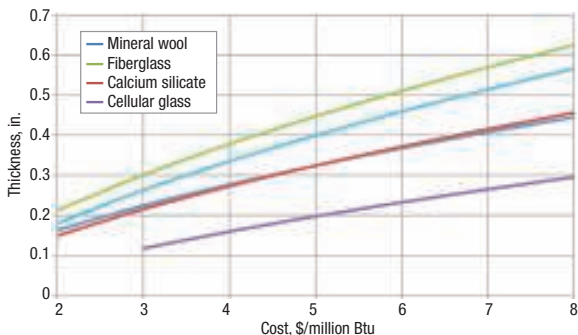

FIGURE 3. The optimal thickness for various insulation materials depends on the energy cost when compared to the base case
As a starting point, we choose a base case to generalize many instances graphically. We select 200°F as the temperature at radius r_1 , a 1-in. pipe and an ambient temperature of 77°F. The graphs in Figure 3 show the behavior of the optimal thickness of insulation for a pipeline versus energy costs for the five different insulation materials for this base case.
Step 1. Obtain the base case optimal thickness from Figure 3. For the x -axis value use the given cost of energy (\$2 /million Btu) and intersect it with the line that corresponds to the desired material, which in this case is
FIGURE 3. A comparison of specific surface area (SSA) derived with Brunauer-Emmett-Teller (BET) data and laser diffraction indicates linearity, confirming laser diffraction as a viable alternative to BET
Figure 3 shows a comparison between the laser diffraction SSA results and analogous data produced using BET techniques. The results show excellent correlation with one another, indicating that laser diffraction can be used in place of BET to predict likely